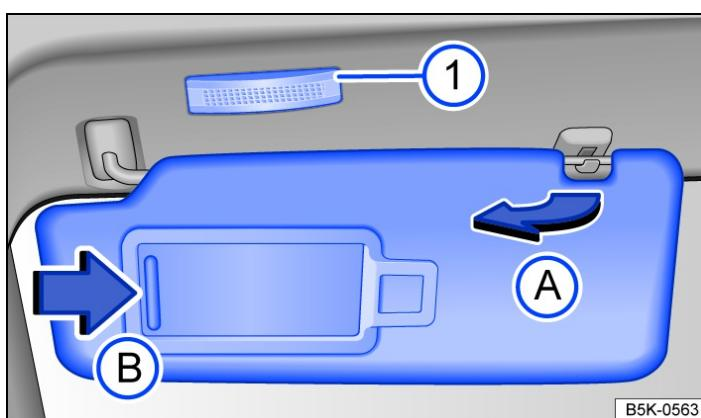

Fig. 1 In the front headliner: sun visor.
- Pulled out of the bracket and swung over towards the door → Fig. 1 A.